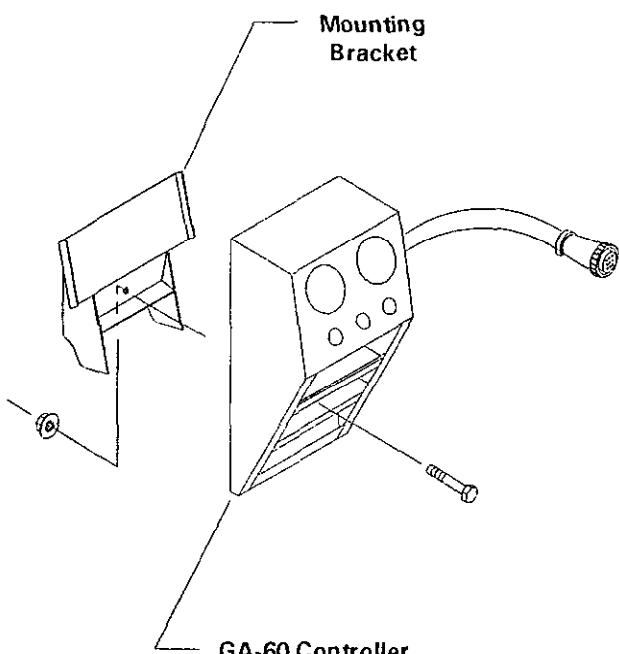

Figure 1
MOUNT GA-60 CONTROLLER (Fig. 1 & 2)
1. Mount the GA-60 controller to the mounting bracket using (1) 3/8" x 1-1/2" bolt and flanged lock nut. (See Fig. 1)